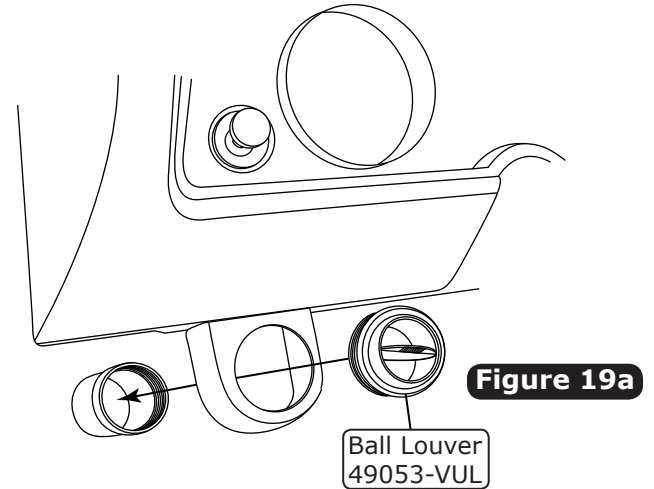

Figure 19a
3. Install the louver into the louver housing as shown in Figure 19a, below.